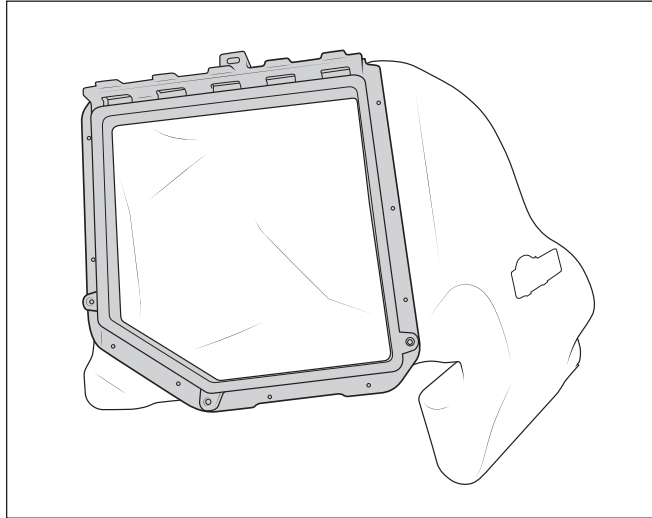

Figure 6
- B. Attach Airbox Adapter Ring to AEV Lower Airbox using supplied 1/8" rivets (fig. 6).